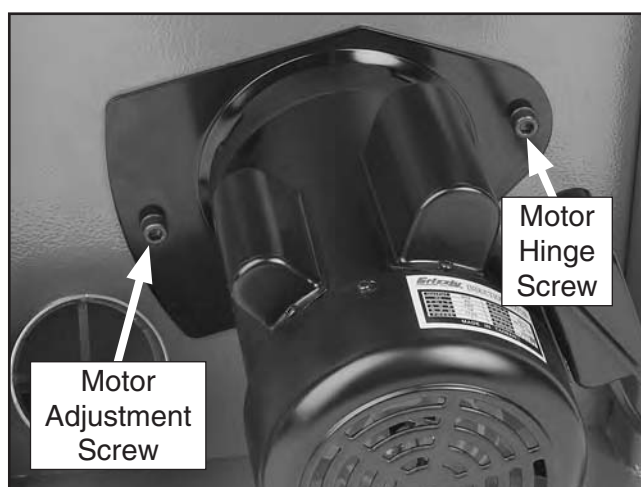

Figure 57. Motor mount screws.
3. Loosen the motor mount screws shown in **Figure 57**.